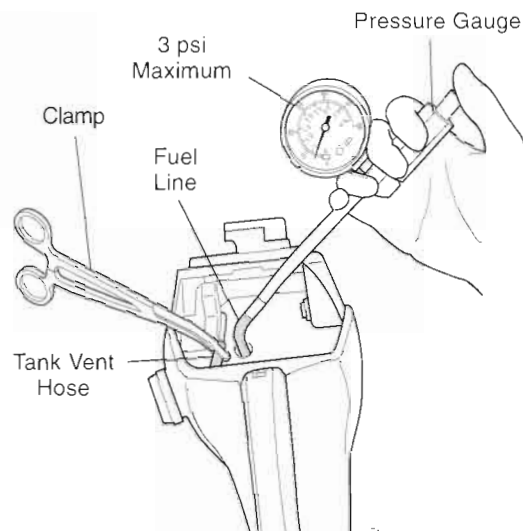

Figure 12.6 Pressure Testing the Fuel Tank
- Inspect the rear handle for abuse or damage such as stripped mounting holes, and discard if unrepairable. Be alert for any sign of possible fuel leaks. Any suspect tank should be pressure-tested at not more than 3psi and discarded if leaks are discovered (Figure 12.6).